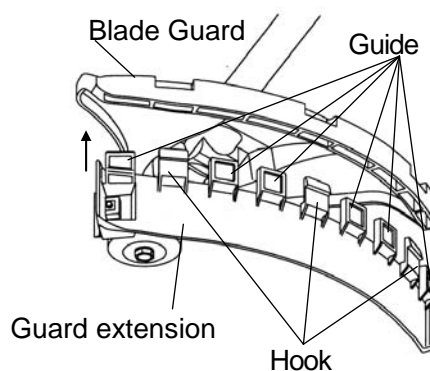

Fig.5
3. Enter the guide in the slot of Blade Guard on Fig. 5.